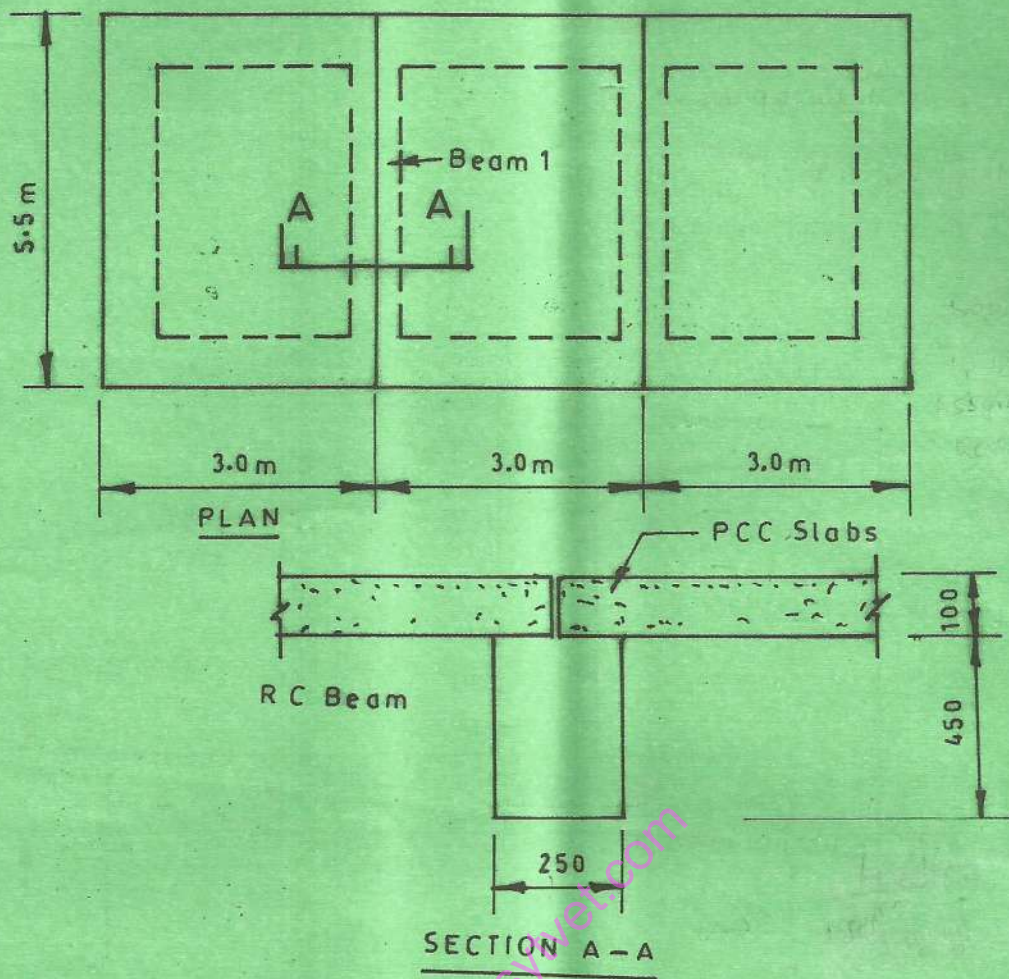

Fig.3
3. Design and detail a simply supported reinforced concrete beam 1 shown in figure 3.